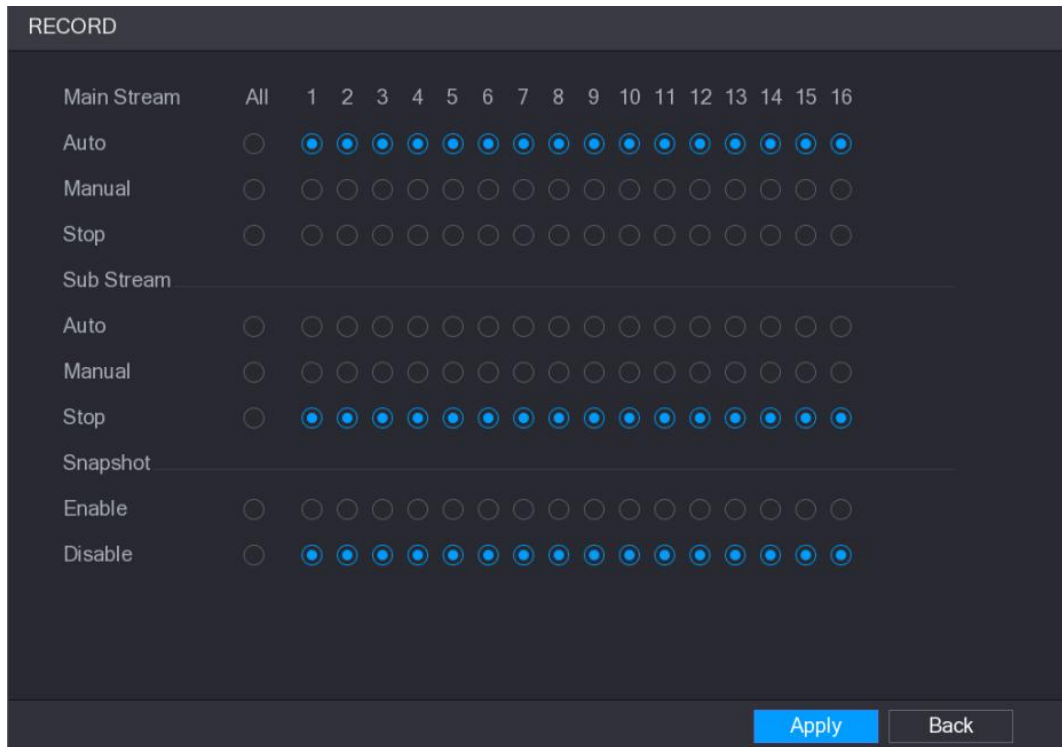

Figure 5-103
Step 1 Right-click on the live view screen, the shortcut menu is displayed. On the shortcut menu, select **Manual > Record Control**. The **RECORD** interface is displayed, see Figure 5-103.